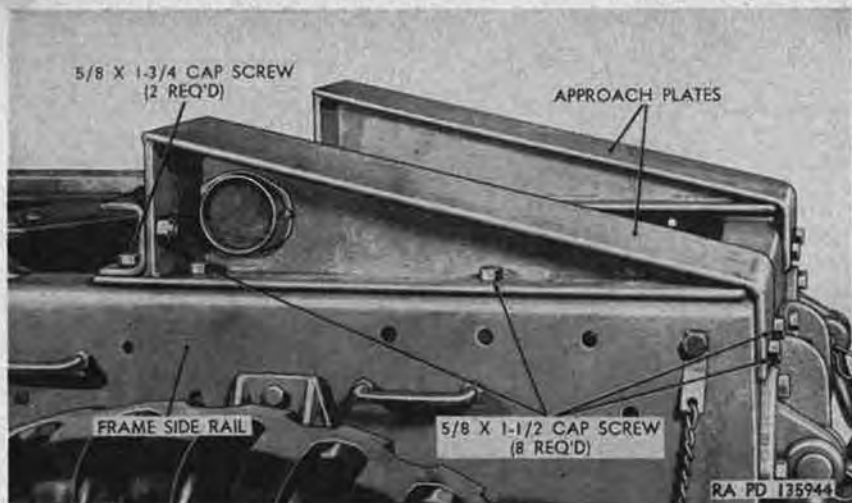

Figure 320. Left rear view of approach plate assembly M52.
- (1) Remove eight cap screws (fig. 320) and safety nuts and two cap screws and safety nuts securing approach plate assembly to frame side rails.
- (2) Lift approach plate assembly from vehicle.
- (1) Lift approach plate assembly into position on frame side rails (fig. 320), and align mounting screw holes in approach plates and side rails.
- (2) Install two $\frac{5}{8}$ x $1\frac{3}{4}$ cap screws (fig. 320) and eight $\frac{5}{8}$ x $1\frac{1}{2}$ cap screws in holes in approach plates and side rails. Install 10 safety nuts on cap screws, and tighten.